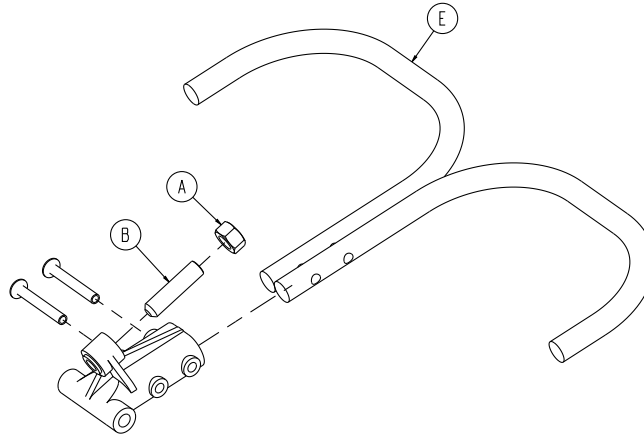

Figure 19 – Loosen the hex nut
13. Using a 1/2" combination wrench, loosen the hex nut (A) on the Fowler release handle pivot while using a 5/32" hex wrench to hold the set screw (B) fixed in the pivot (Figure 19).
14. Using a 5/32" hex wrench, turn the set screw until there is no movement between the Fowler release handle (E) and the pneumatic cylinder release button (Figure 19).
17. Using a 1/2" combination wrench, tighten the hex nut (A) while you hold the set screw (B) fixed in the pivot (Figure 19).